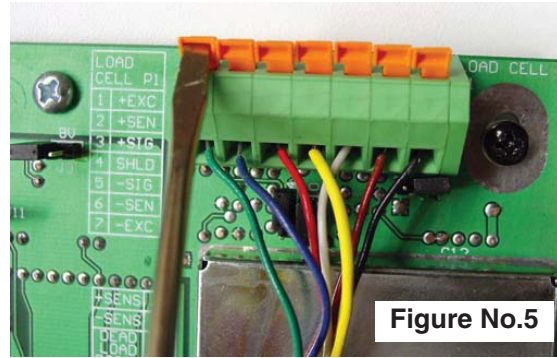

Figure No.5
8. To terminate a wire, use a small flat blade screwdriver and press down on the release bar for the terminal. Insert the wire into the terminal opening. Remove the screwdriver, allowing the release bar to return to its original position, locking the wire in place. See Figure No. 5.
7. To terminate a wire, use a small flat blade screwdriver and press down on the release bar for the terminal. Insert the wire into the terminal opening. Remove the screwdriver, allowing the release bar to return to its original position, locking the wire in place. See Figure No. 5.